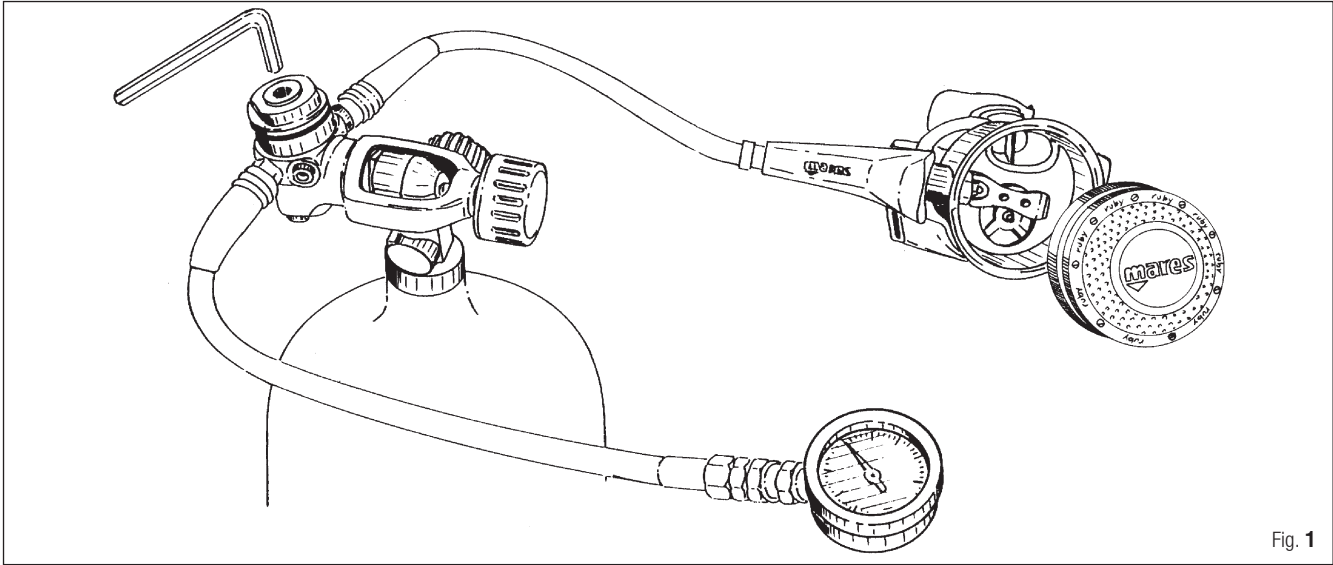

Fig. 1
5. Read the value of the first stage adjustment on the pressure gauge, and proceed as follows (Fig. 1):